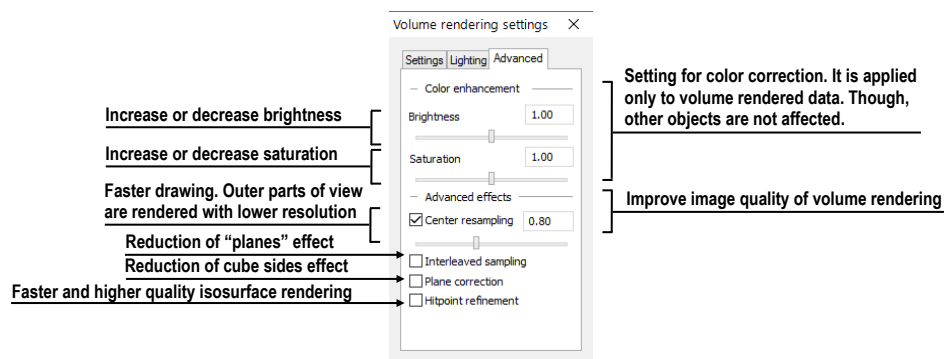

Figure 346 – Volume rendering settings, the third tab
- settings for color corrections and advanced ray casting settings on the third tab (see Figure 346)